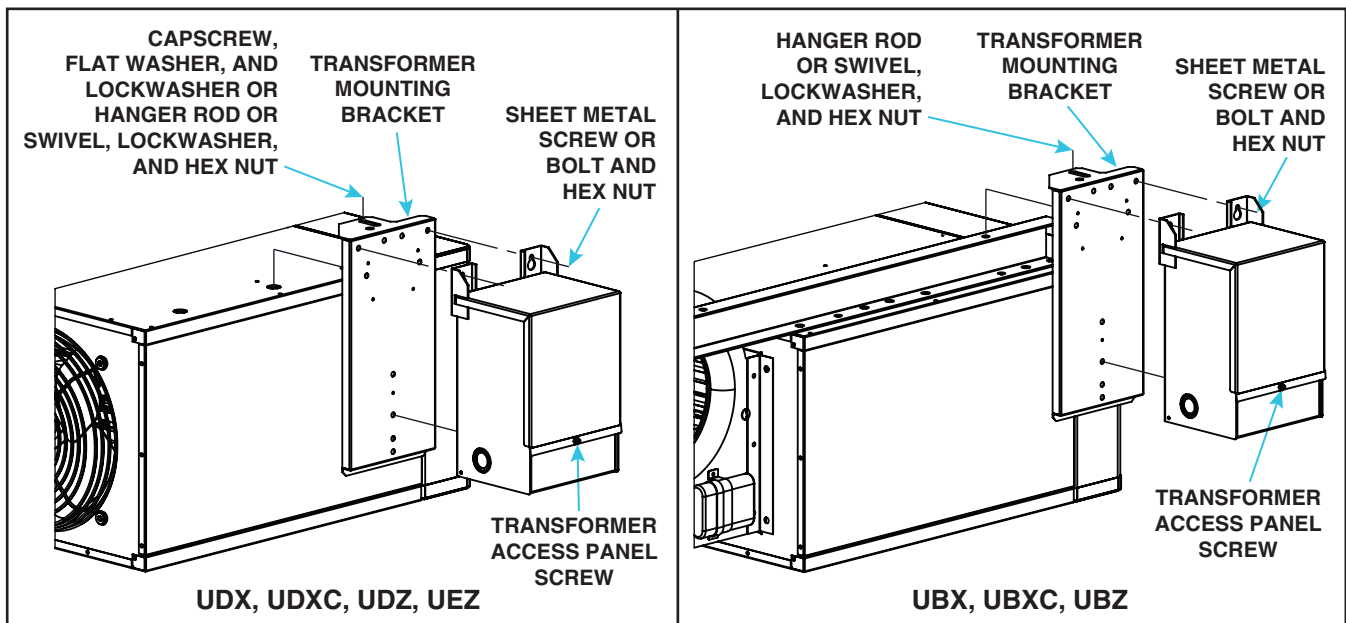

Figure 1. Transformer and Bracket Installation
1. See Figure 1 to determine transformer/bracket location:
3. Install transformer on mounting bracket (see Figure 1):
4. Secure transformer mounting bracket with transformer to heater (see Figure 1):